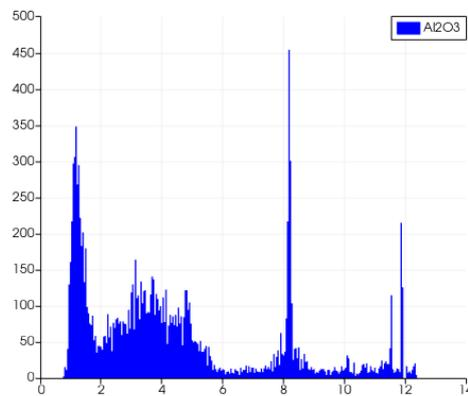

Fig. 2.25: A **Histogram** showing the *AI2O3* attribute of a data table.
*Histograms* can be generated by simply showing the table data in a **Histogram View** as illustrated in Fig. 2.25.